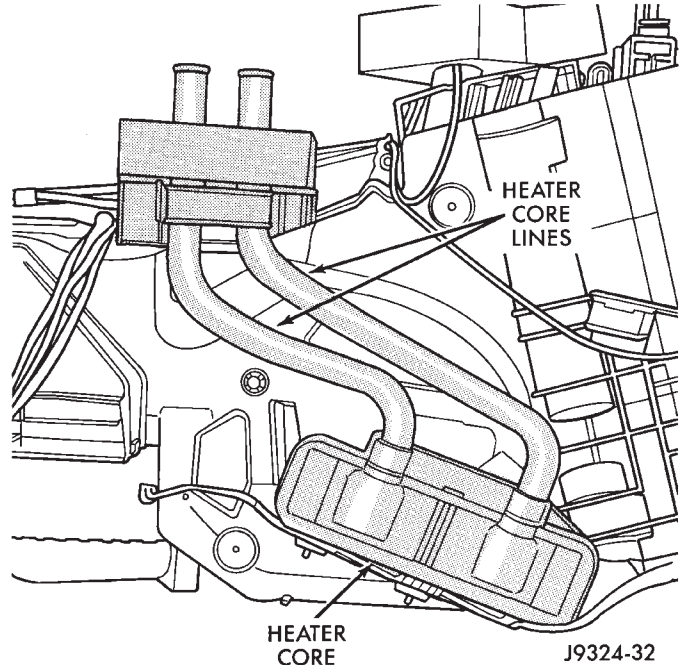

Fig. 58 Heater Core Remove/Install
(1) Remove the heater-A/C housing from the vehicle. See Heater-A/C Housing in the Removal and Installation section of this group for the procedures.
(2) Remove the screws and retainers that secure the heater core to the heater-A/C housing.
(3) Lift the heater core straight up and out of the heater-A/C housing (Fig. 58).